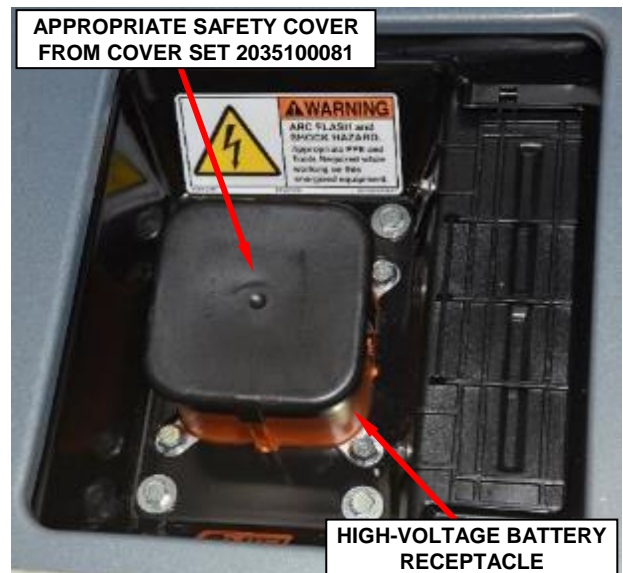

Figure 9 – High-Voltage Battery Receptacle Safety Cover
12. Cap the receptacle on the high-voltage battery with the appropriate cover found in safety cover set 2035100081 to prevent foreign objects from entering the receptacle (Figure 9).